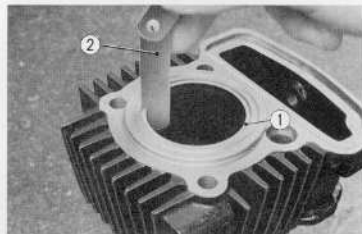

Fig. 3.55 Piston ring end gap
Measure the ring end gap by inserting the ring (1) into the cylinder so that the ring is at right angle to the cylinder axis. (Fig. 3.55)